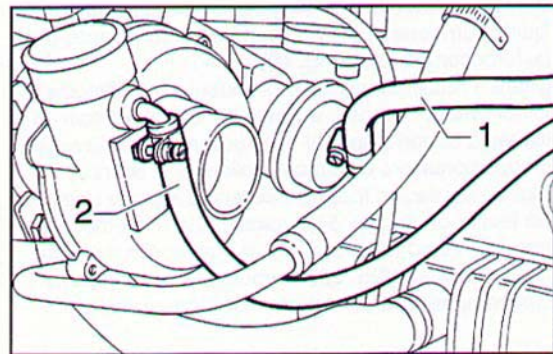

Fig. 45 ▲
- slacken the clamps and disconnect the waste-gate valve (1) and pressure intake (2) command tubes from the right turbocharger assembly (**Fig. 45**);